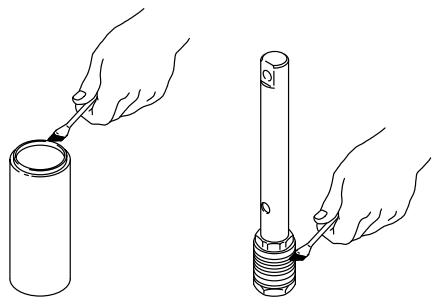

Fig. 31
9. Grease the piston packings and the top edge of the sleeve. See Fig. 31.